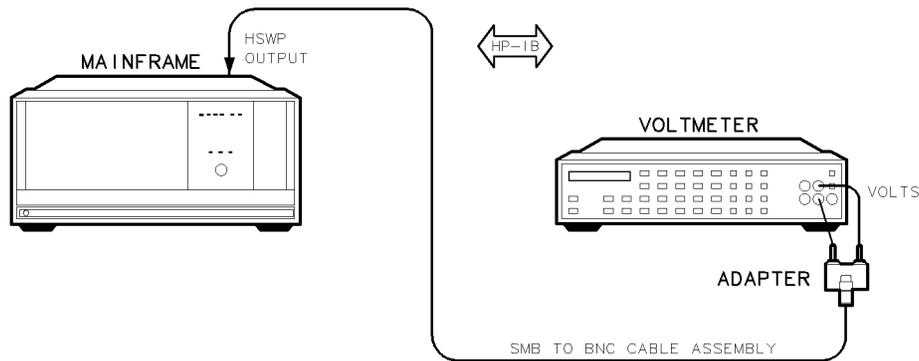

Figure 7-20. HSWP Output Voltage Test Setup
1. Connect the HP 3456A digital multimeter to the DUT's HSWP OUTPUT using the adapter as shown in Figure 7-20.